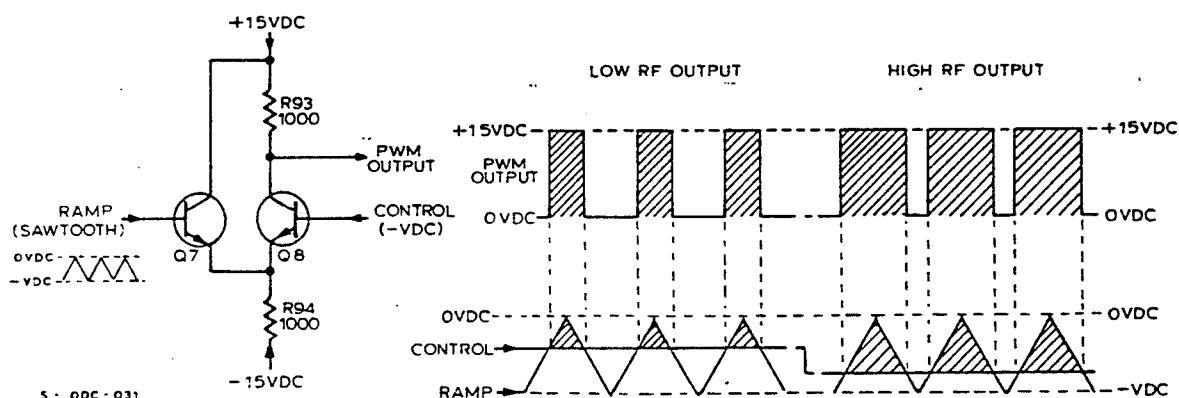

Figure 2-1 Simplified Schematic of PWM Differential Amplifier
2.3.2.13 Variable Pulse-width Generator Description: The variable pulse-width generator consists of operational amplifier U9B, transistors Q7, Q8 and their associated components. They are configured to form an emitter coupled differential amplifier. A portion of the 'PWM reference' signal is applied to the non-inverting input of unity gain buffer amplifier U9B from the wiper of O/P PWR potentiometer R92. The output of U9B is applied to the base of Q8. The linear sawtooth waveform from ramp integrator U9A is applied to the base of Q7. Refer to figure 2-1 for a simplified schematic of the differential amplifier.